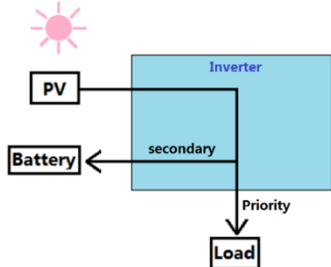

Figure1-10
2. If PV is sufficient, PV supply power to the load priority, then charge battery. (Figure1-10)